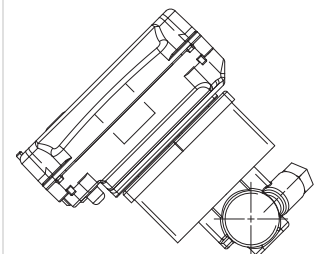

Fig. 8 Ultrasonic transducer
2. Place the calculator on the mounting slot of ultrasonic transducer (Fig. 8)